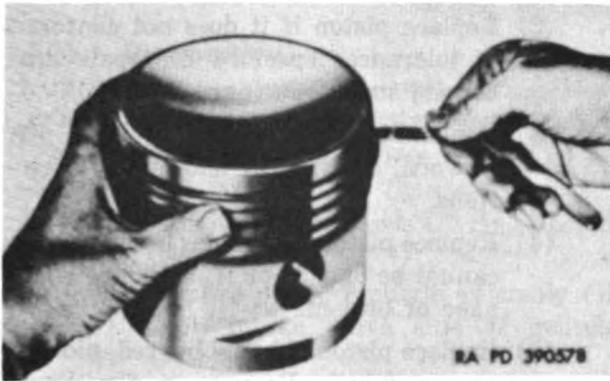

Figure 74. Measuring piston ring side clearance.
- (b) Measure side clearance of all four rings with a thickness gage as shown in figure 74. Measurement should conform to tolerances specified in repair and rebuild standards (par. 309).